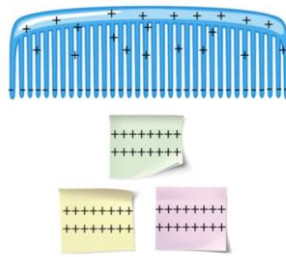

Fig. 1.22 Comb with Negative charge on the bottom of the comb placed near the piece of paper
Step 2 – Place the piece of paper near this comb. When we rub a comb on our head hair, it will get negatively charged, because our body is a conductor. Through rubbing the negative charge of the body will get transferred to the comb. Figure 1.22 illustrate that the negative charge accumulated on the bottom of the comb and is placed near the piece of paper